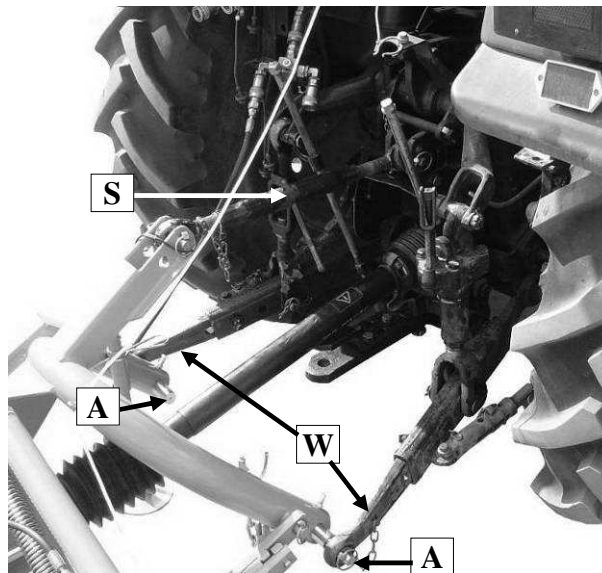

Fig. 9. Connecting mower to the tractor
- install pins (**A**) of the mower in hangers (**W**) of tractor's lower links (**Fig. 9**),
- ❑ by means of upper link (**S**) (**Fig. 9**) adjust the cutting height. Extending the link **S** increases the cutting height and shortening the link reduces it.